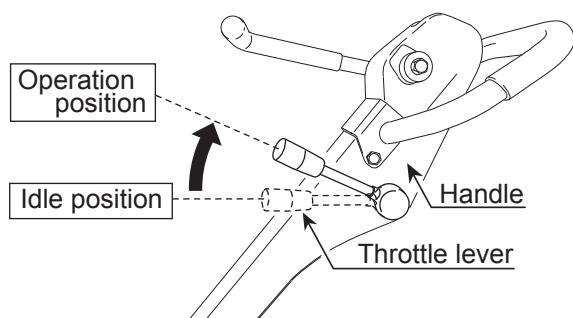

Figure 21. Throttle Lever (Operation Position)
1. Once the engine has started, move the engine throttle lever quickly to the **operation** position (Figure 21).